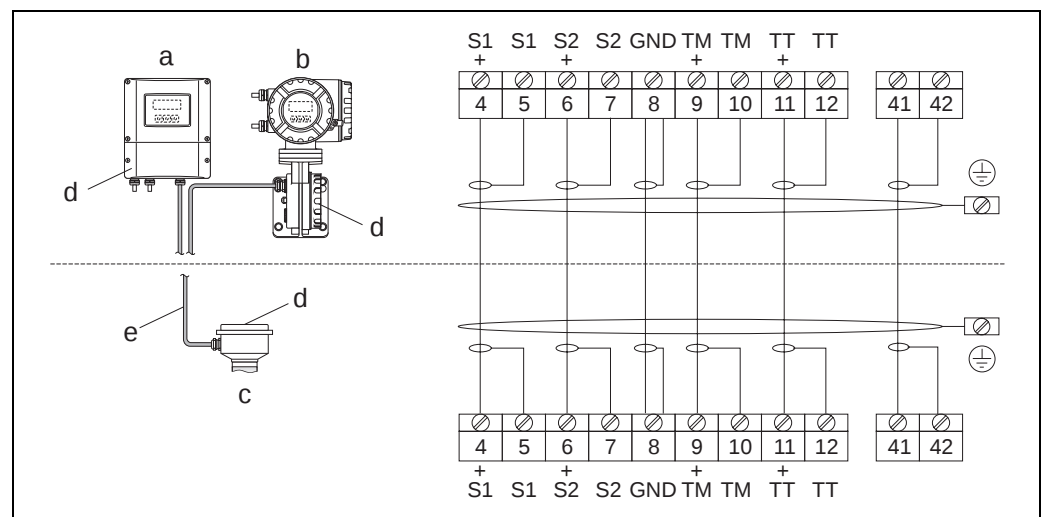

Fig. 20: Connecting the remote version
3. Establish the connections between sensor and transmitter in accordance with the wiring diagram (see Fig. 20 or wiring diagram in screw cap).